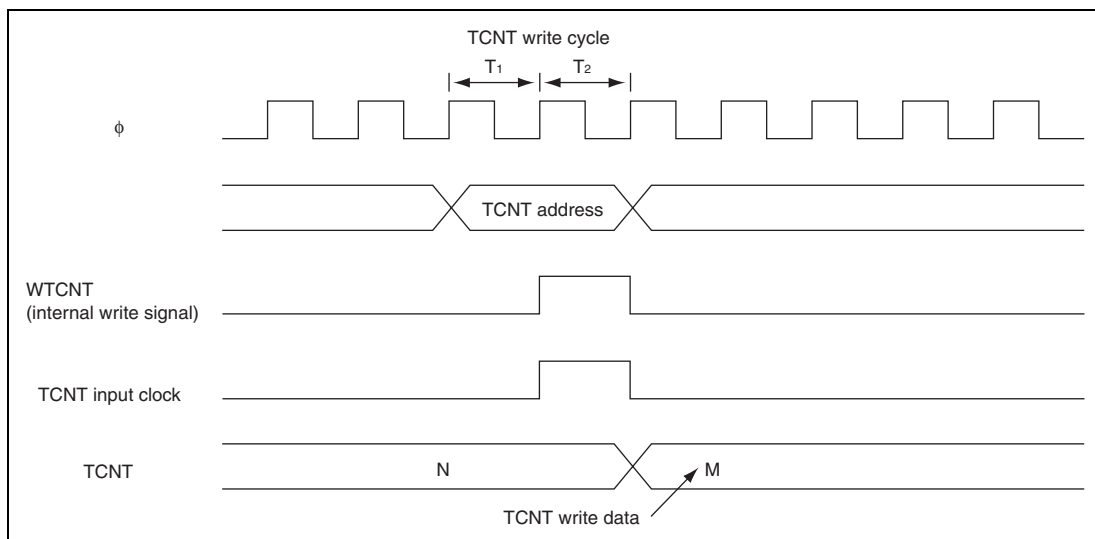

Figure 13.53 Contention between TCNT Write and Increment Operations
2. Contention between TCNT Write and Increment Operations: If incrementation is done in T_2 state of a TCNT write cycle, TCNT writing has priority. Figure 13.53 shows the timing in this case.